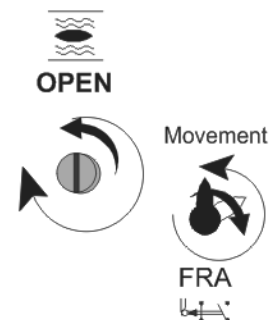

Figure 12.3-3
- If, by accident, it has been carried on turning past the tripping of the FRA microswitch, turn spindle **A** in the opposite direction (clockwise) until the **B** spindle returns to vertical (Figure 12.3-3).